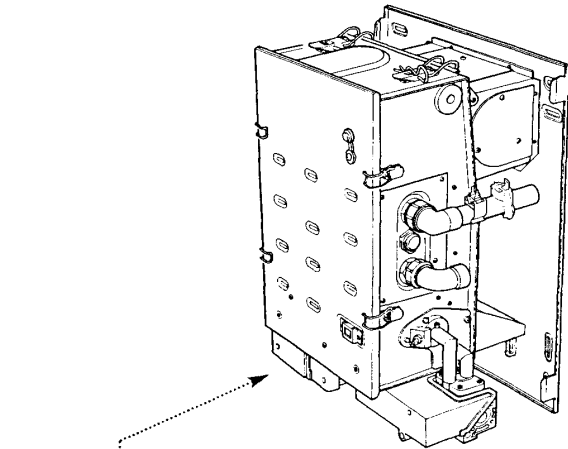

Fig. 73
1. Remove the cover from the control box by removing the 2 screws (Fig. 73).